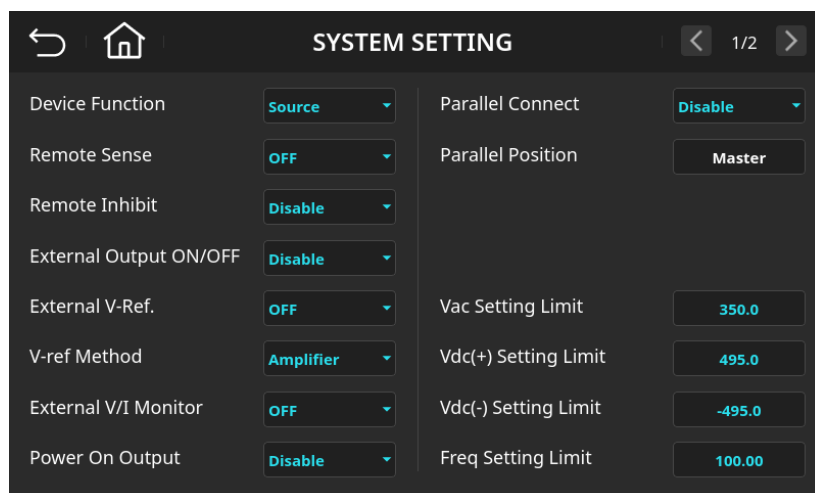

Figure 6-14 System Function Settings Page (Freq Setting Limit = 100.00)
2. Enter 1, 0, 0, then press the Enter key ; the value will update to "100.00", as shown in Figure 6-14.